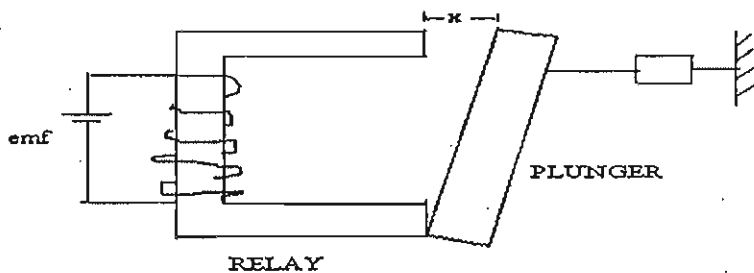

Fig.1
1. a) Consider the operation of an electromagnetic relay shown in fig.1, where one winding is mounted on a stationary member of iron and a movable member of iron is attached to a wall of the relay by a spring on one side. Now show that the energy converted to mechanical form equals the area between the two magnetization characteristics (flux vs.mmf) respectively for the open position and closed position with respect to movement of the plunger. Assume the necessary parameters for the system concerned.
- b) Derive the expression for mechanical force if the plunger shown in fig.1 is allowed to move an infinitesimal distance in the direction of magnetic force acting upon it. 8+8=16
b) In an electromagnetic relay shown in fig. 1, the exciting winding has 1000 turns. The cross-sectional area of the magnetic core is 10 cm × 10 cm. The reluctance of the magnetic circuit may be assumed to be negligible. Also neglect fringing effects.